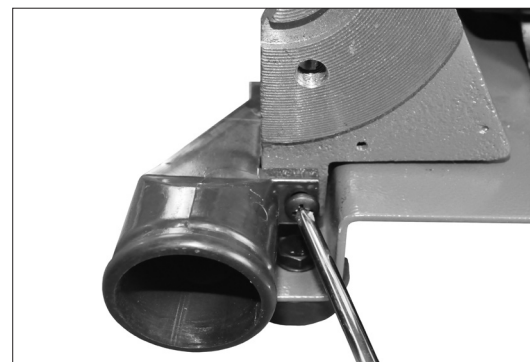

FIG. 8
18. Attach the Dust Port (#19) to the sanding disc base using the M6 Phillips head Screw and Washer (#18, 17). FIG. 8.